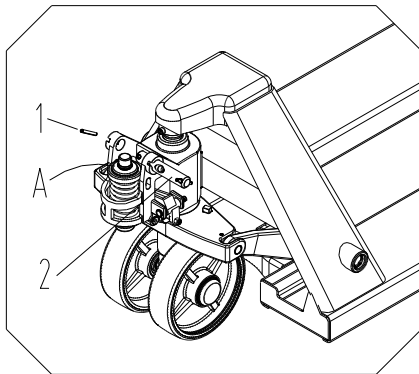

Fig.1
- 3.1 See fig 1, pull out the pin roll 2.